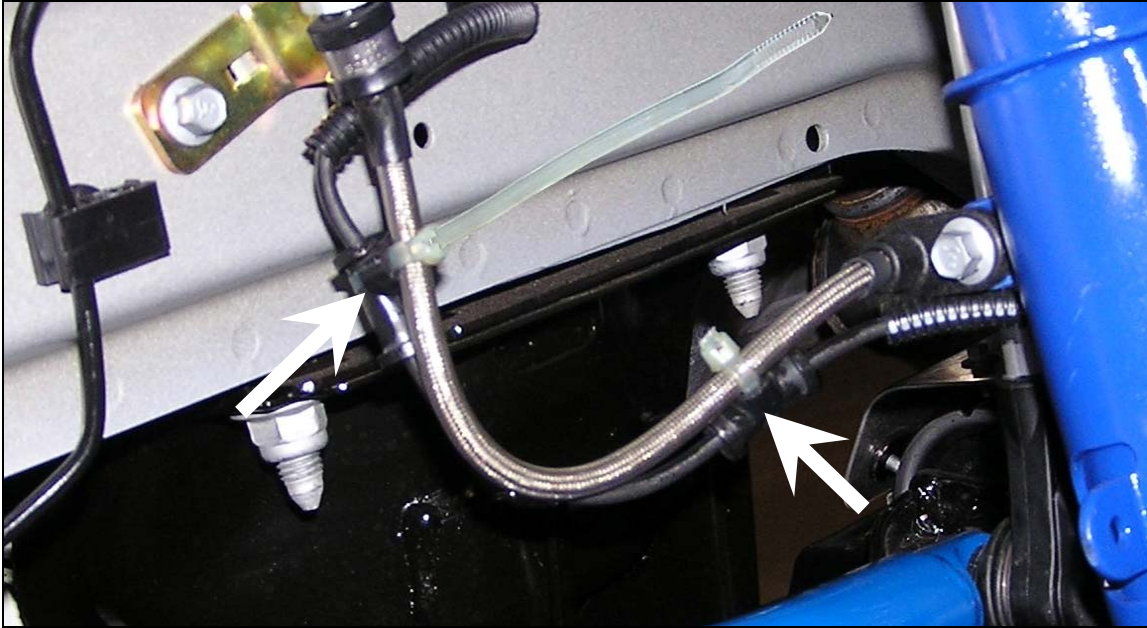

Figure 22
2. Engage the wire tie ends around the Braided Brake Hose and pull tight. Cut off the excess wire tie. Repeat for the second ABS protective rubber sleeve. Refer to Figure 22.